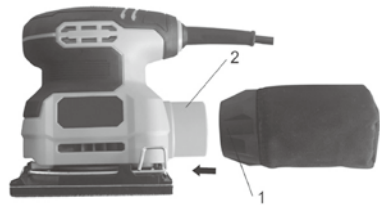

Fig. 1
1. Insert the dust box assembly sleeve (1) onto the dust chute (2) (Fig. 1).